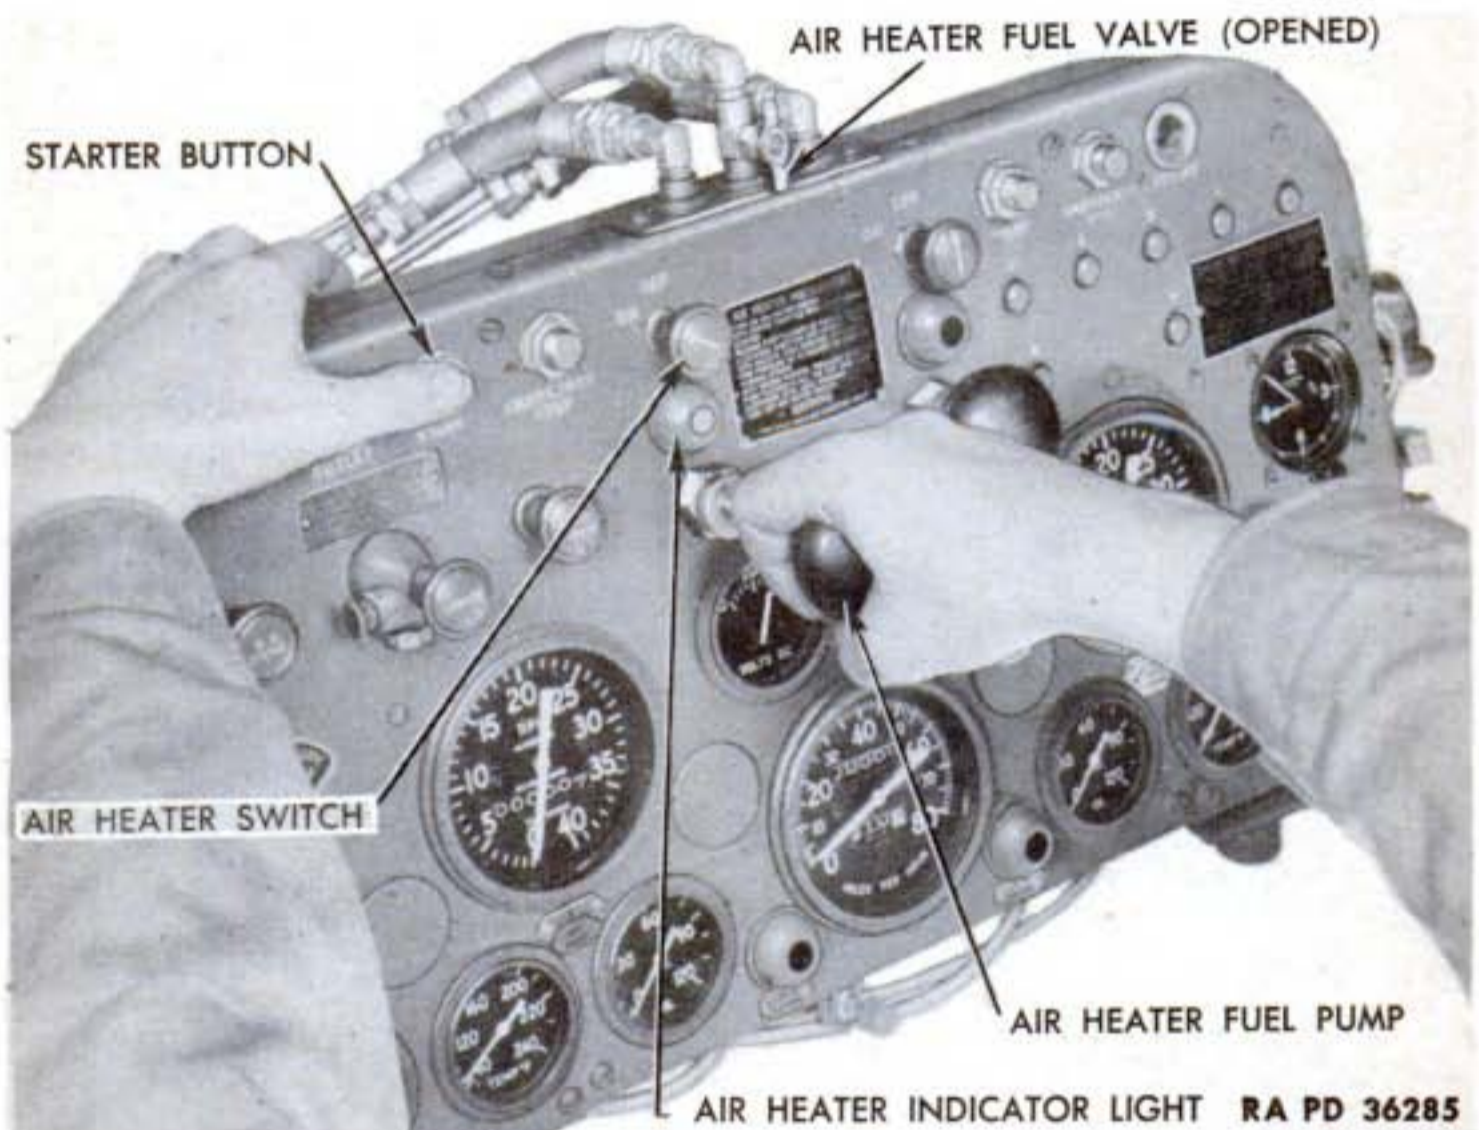

Figure 23—Operating Air Heater Fuel Pump, While Pressing Starter Button
(4) Turn on air heater switch, for engine to be started. Red air heater indicator light will light (fig. 23).
(5) Unlock air heater fuel pump plunger, for engine to be started, by first turning handle to left or by pulling straight out sharply if plunger is equipped with snap-type lock.
(6) Press engine starter button with one hand and with other hand operate air fuel pump plunger with full, even strokes (fig. 23). After engine starts, push plunger in and lock it. For low temperature starting, a few extra strokes of the plunger after engine starts, with a pause after each stroke, will help keep engine from stalling.
(7) Close air heater fuel valve and turn off air heater ignition switch (fig. 23).
(8) After engines are started, proceed through steps (9), (10), and (11) in preceding subparagraph 7 b on starting engines at above freezing temperature.
d. Using One Engine to Start Other Engine. One engine can be used to start the other in case its electric starter does not function or to avoid excessive drain on battery in cold weather. After first engine is started, hold clutch pedal down, push in clutch lockout controlling clutch for running engine, and let clutch pedal up. Operate at 1,000 revolutions per minute long enough to warm up transmission oil (par. 7 b (11)). Hold clutch pedal down, push other clutch lockout in and accelerate engine while releasing clutch.